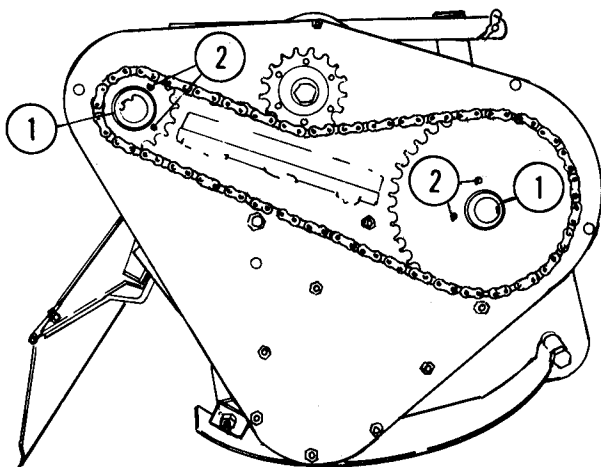

Fig. 18 — Outer Drive Sprockets
2. Remove snap rings from each sprocket shaft, Figure 18.
3. Remove set screws from each sprocket hub, Figure 18.